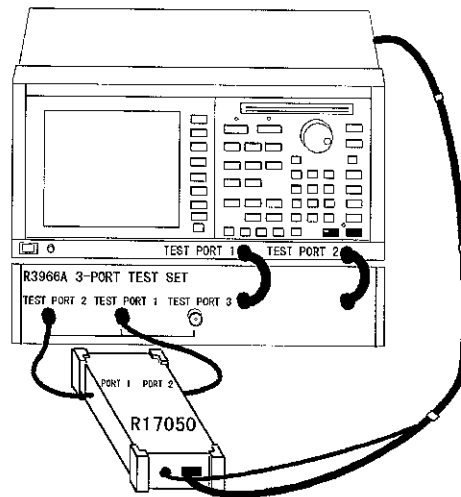

Figure 2-7 RF Port Connection
4. Connect the RF ports of the instrument to the test ports of the network analyzer (see Figure 2-7), using the cable that is actually used to measure the DUT. The RF port of the instrument has no directivity. Feel free to select port combinations.